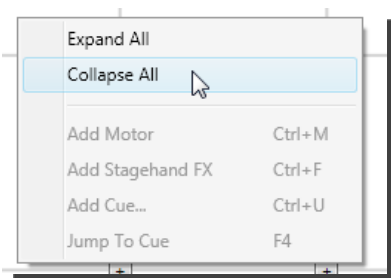

Figure 237
2. Hide all the speed and acceleration information for the cues by right-clicking in the **Cue Grid** and selecting **Collapse All** (Figure 237).